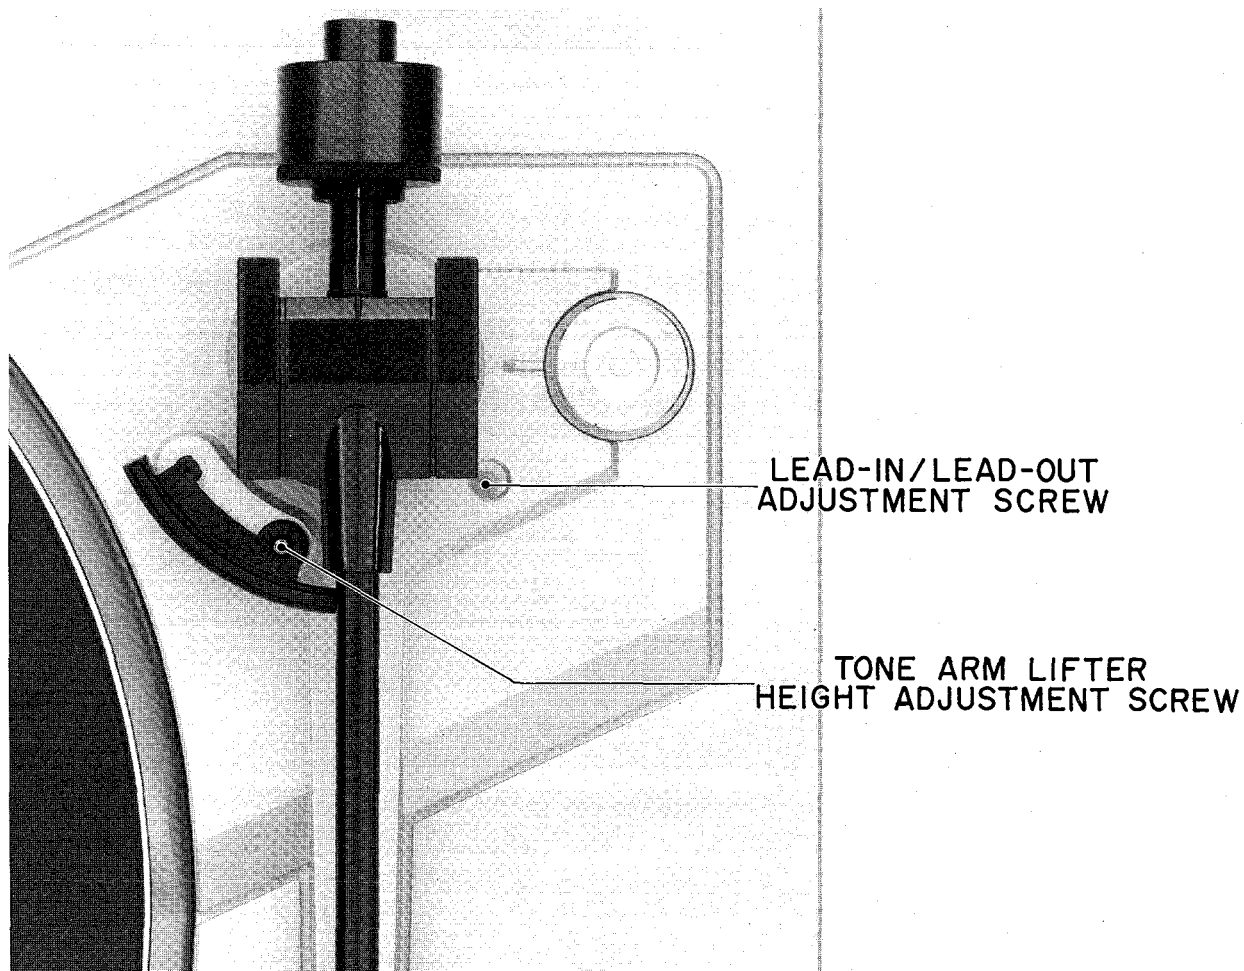

Fig. 7 Tone Arm Lifter height Adjustment and Lead-IN/Lead-OUT Adjustment
- e) Set the cueing lever to ▼ (UP).
- f) Tighten the screw (b) slowly so that the stylus point will be about 1 – 2 mm higher than when the stylus is lifted in AUTO PLAY. (Check by moving the cueing lever ▼ (UP) ... ▼ (DOWN).
- h) While repeating the operation of ▼ (UP) ↔ ▼ (DOWN) of the cueing, tighten the screw (c) until the stylus point hardly changes.
2) Tone Arm Lifter Height Adjustment (Refer to Fig. 7).
(Refer to Fig. 7)